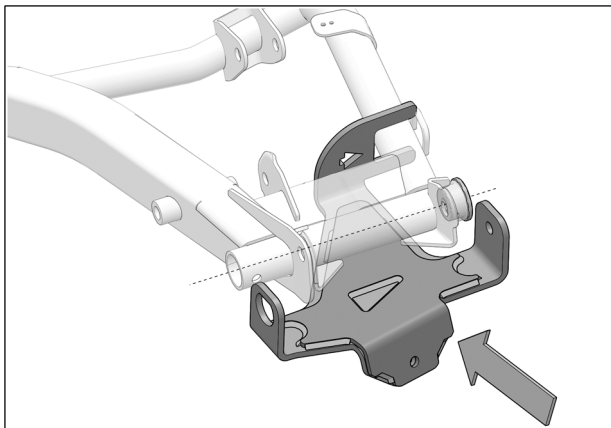

Fig. 6
7. Slide anchor bracket toward back of suspension arm and align bracket mounting holes with suspension arm tube holes. See Fig. 6